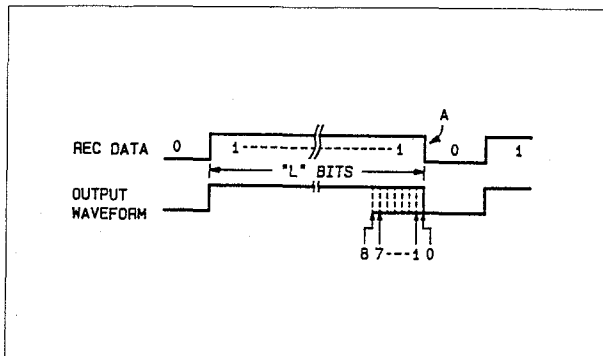

Fig. 3-1-5. Peak Shift Compensation by Phase Modulation (RF-15 Board)
Consequently, when performing digital recording at short wavelengths it is necessary to perform peak shift compensation. This is done by phase modulation in the DVR-1000. In other words, as shown in Fig. 3-1-5., the continuous bit length "L" is detected and the inversion position (A) after the continuous bits is shifted to the front by external data input in advance. One shift step is about 0.5 nsec. As the continuous bit length "L" increases in size, the shift of the inversion position also increases.
**(D) REC Enable (RF-15 Board)**